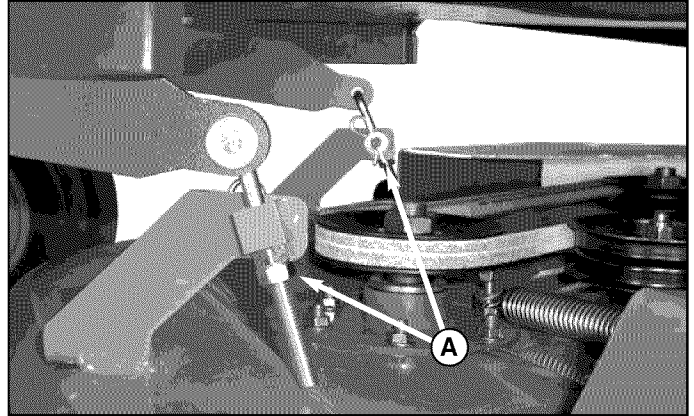

Figure 31. Mower Leveling - Front-to-Back
- To adjust the front of the mower deck, use the adjusting nuts on the front deck lift rods (A, Figure 31) until the desired measurement is achieved. Be sure to adjust both sides the same amount.